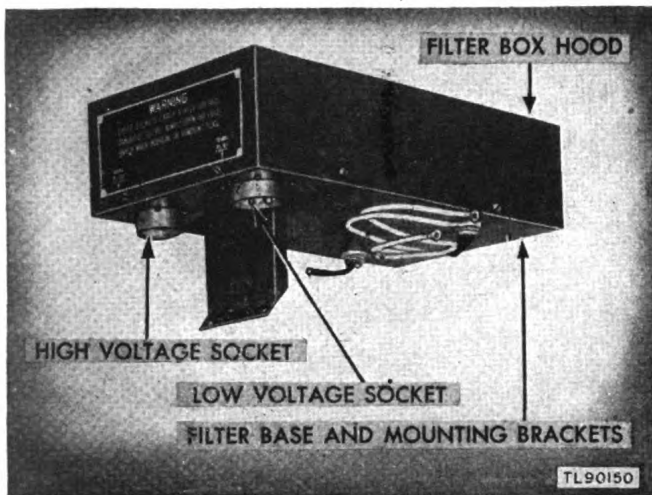

Figure 13. Filter box for Power Unit PE-49-D.
b. FILTER BOX. The filter for Power Unit PE-49-D, consisting mainly of choke coils and capacitors, is mounted in a separate weather-proof sheet-brass box with a removable cover. Two sockets are located on the under side at one end of the box. The transmitter is connected to the power unit at these points through cords. (See fig. 13.) No filter box is used on Power Units PE-49-F, PE-49-G, or on Motor Generator MG-37-A. The filter system is contained in the control boxes of these power sets.